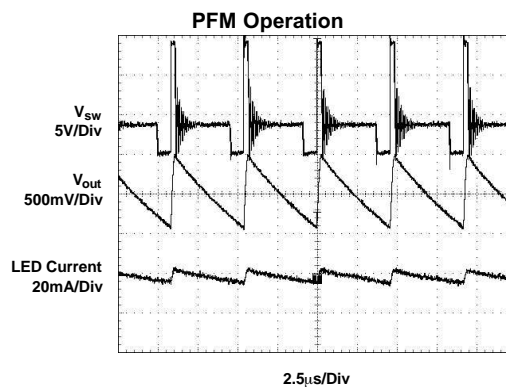
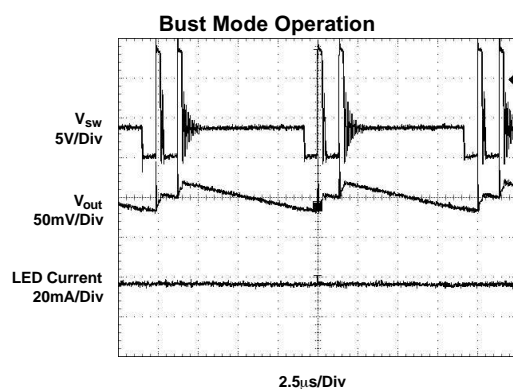

Figure 13
Figure 14
If the converter can support the desired LED current, the next step is to calculate the converter switching frequency at the operation point, which must be  $\leq 1$  MHz. Also the converter switching frequency should be much higher than the applied PWM frequency at the CTRL pin to avoid non-linear brightness control. Assuming the converter shows no double pulses or pulse bursts (Figure 13, Figure 14) on the switch node (SW) the switching frequency at the operation point can be calculated as:
Assuming the converter does not show double pulses or pulse bursts on the switch node (SW), the output voltage ripple is calculated as (see Figure 13, Figure 14):